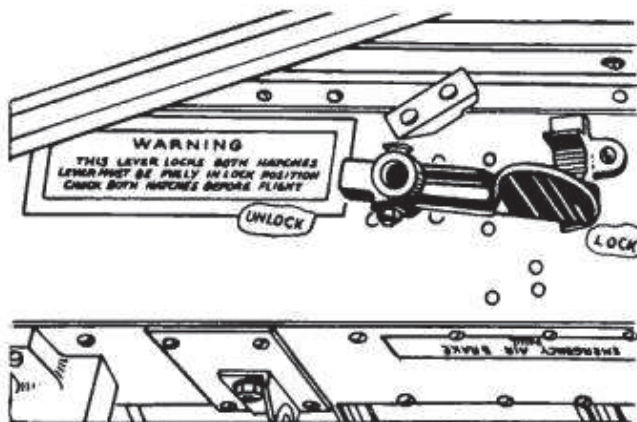

Figure 40 — Hatch Lock Lever
- (10) Check flight controls and trim tabs, having co-pilot observe movement of surfaces.
- (11) Have co-pilot close and lock overhead hatches. (See figure 40.)